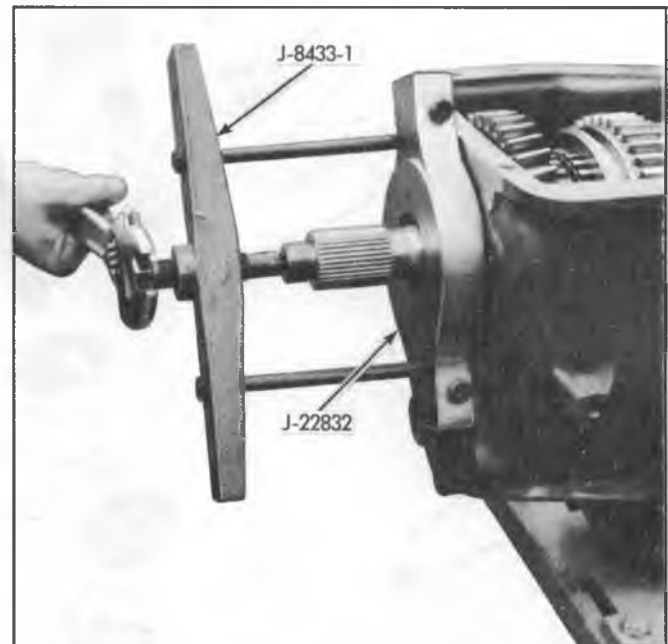

Fig. 4Q—Removing Mainshaft Rear Bearing
12. Remove rear mainshaft bearing retainer ring (snap ring) and using Tool J-22832 and J-8433-1, remove bearing from case (fig. 4Q). Slide 1st speed gear thrust washer off mainshaft.